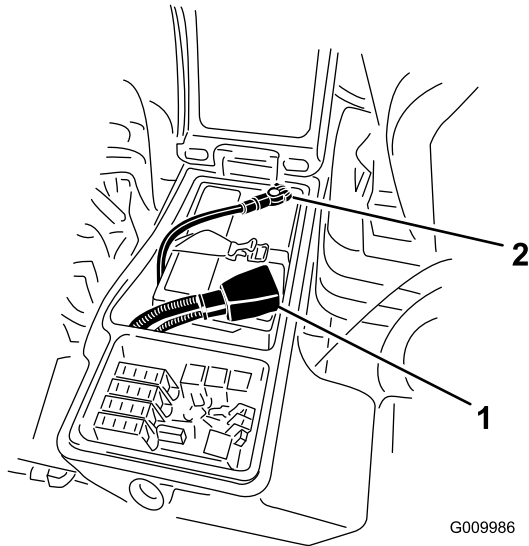

Figure 67
3. Remove the negative cable (black) from the negative (-) terminal and the positive cable (red) from the positive (+) terminal of the battery (Figure 67).
6. Install the positive cable (red) to the positive (+) terminal and the negative cable (black) to the negative (-) terminal of the battery (Figure 67).